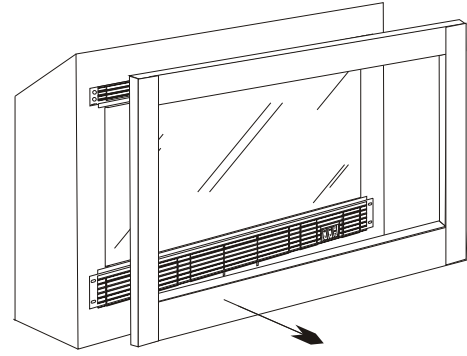

Fig 1
3. Take the two sides of the frame and pull the frame off. (See fig 1)